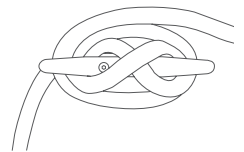

Fig 64 -
3. Make one more full loop in a clockwise direction and pull tight, for added security add one more full loop (Fig 64).